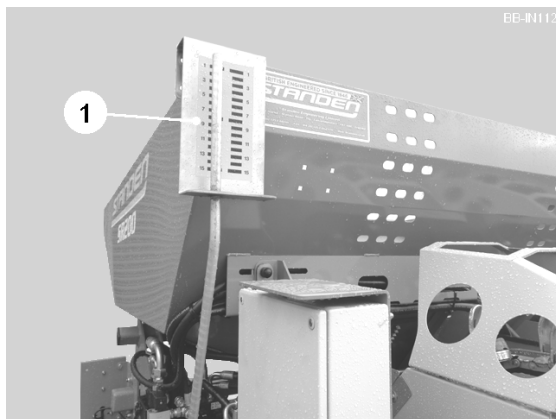

Fig. 17
On machines with hydraulic depth control, the planting depth is adjusted by the depth rams (item 1, fig. 16) from the touch-screen terminal. The pointer (item 1, fig. 17) gives a visual indication of the action of the hydraulic depth control.